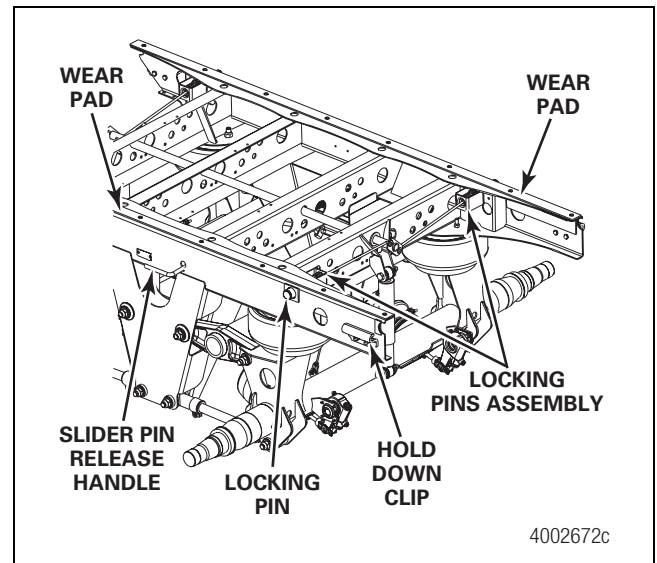

Figure 9.12
2. Check the slider locking pins, slider pull-bar mechanism and slider wear pads for signs of excessive wear or binding. Figure 9.12. Repair or replace as needed.